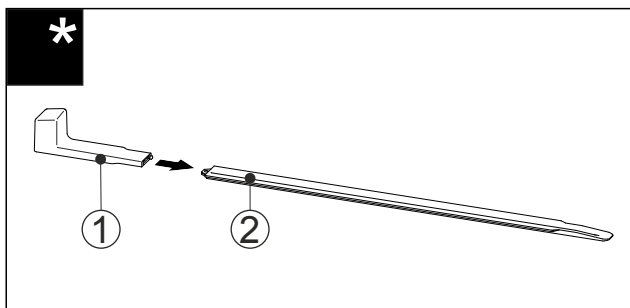

Fig. 56
- Attach the installation handle Fig. 56 (1) to the levelling rail Fig. 56 (2).